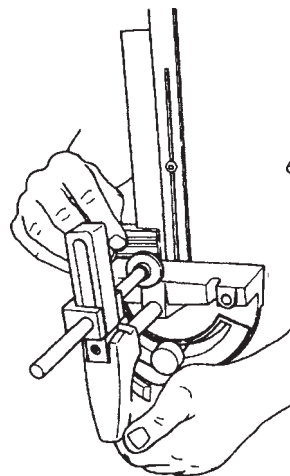

Figure A-14
1. Use a precision square to double check your miter gauge for squareness. See Fig. A-14. Adjust the miter gauge to be square, if needed.